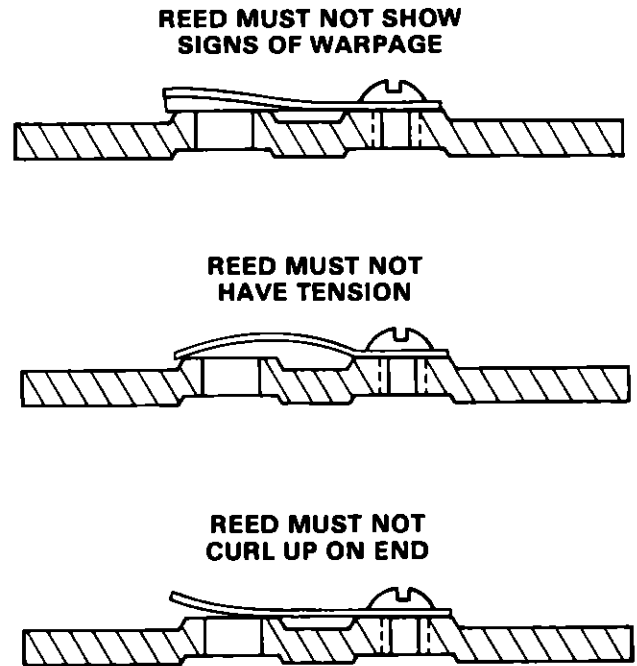

Figure 10. Inspecting Fuel Pump Reeds.
- 3 Reed Plate Reeds must lie flat when placed on the reed plate so when secured with screw and washer they do not have tension, which would restrict fuel flow, or stand open, which would allow fuel to flow unchecked Figure 10